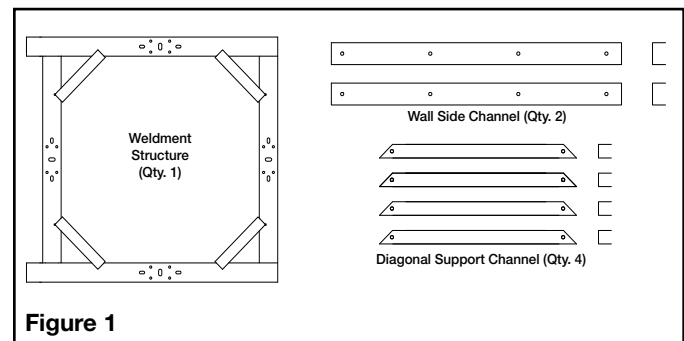

Figure 1
Vertical wall mount stand assembly is provided loose condition, part shown in Figure 1. Follow steps below to assemble and install.
2. Assemble all four diagonal support channels shown in Figure 1. Make sure fasteners are added both inside and outside of diagonal support.